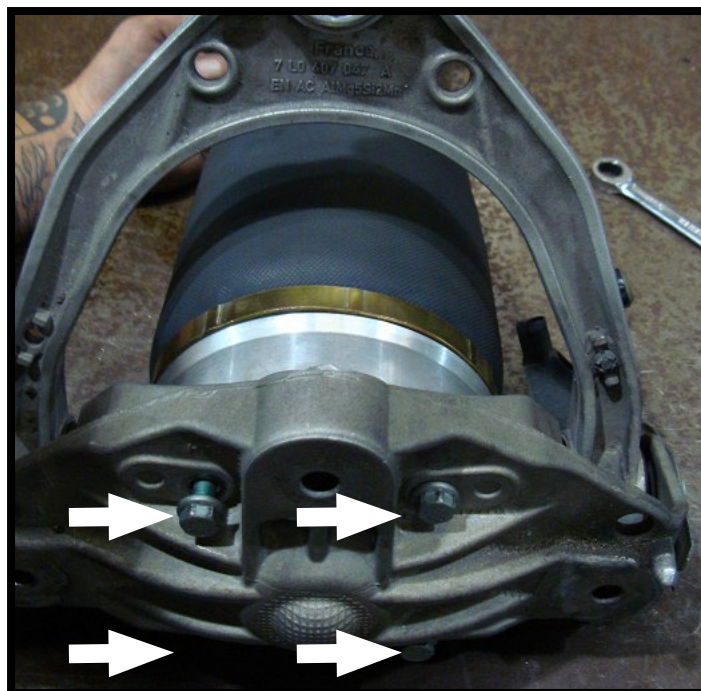

FIGURA 30-5
5. MONTARE I QUATTRO NUOVI BULLONI CHE ASSICURANO IL SOFFIETTO AD ARIA AL SUPPORTO SUPERIORE. (FIGURA 30-5)